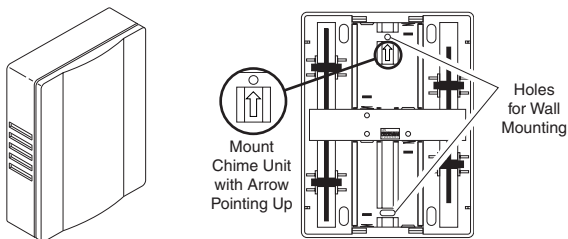

Figure 5
3. Use chime holes as a template (see Figure 5). Drill 7/32" diameter pilot hole for 2 wall anchors (provided) and insert anchors.
5. Using arrow inside chime unit as a guide, mount chime with arrow pointing up (see Figure 5). Do not tighten completely.